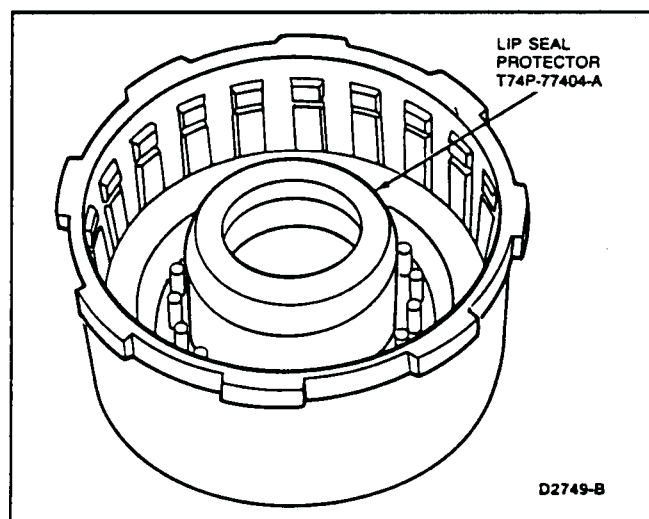

FIG. 29 Inner Seal Protector—Reverse and High Clutch
3. Carefully install clutch piston. Use Lip Seal Protector T74P-77404-A or equivalent to protect inner seal (Fig. 29).